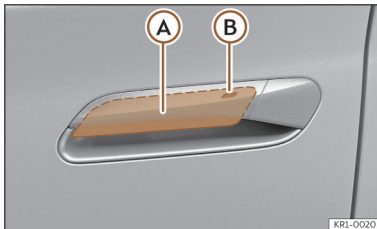

Fig. 69 Door handle: sensor surfaces.
>>> **Fig. 69**
- Touch the sensor surface **(B)** >>> **Fig. 69** on the outside of the door handle. All turn signals flash once.
- Within 5 seconds, touch the sensor on the outside of the door handle once >>> Fig. 69 . Do not grip the handle while doing so. This temporarily deactivates the Keyless Access system.